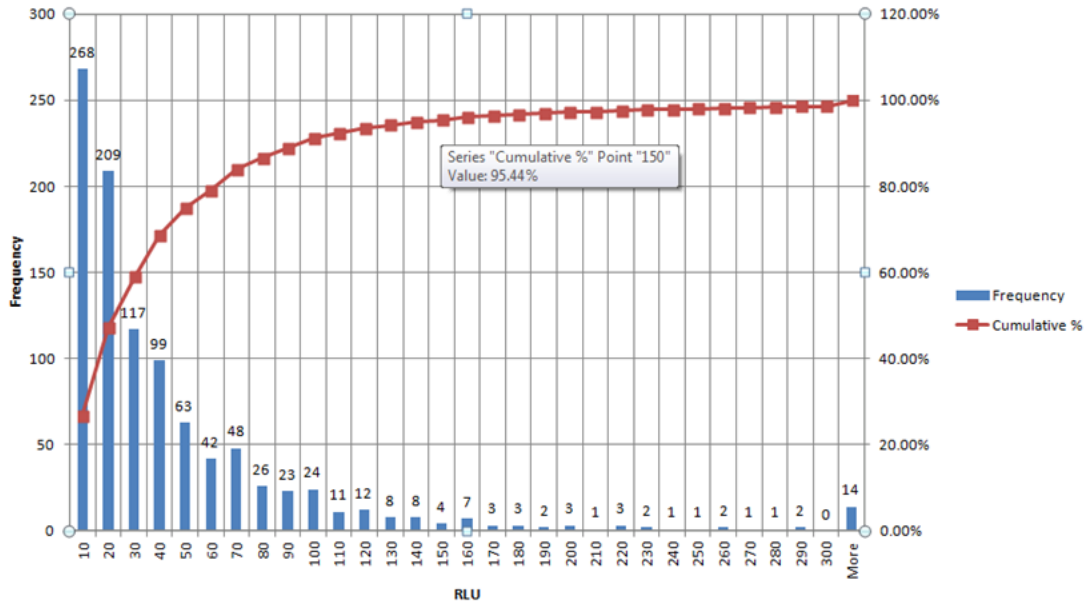

Figure 2. Example of a histogram chart showing RLU test results for a table top surface from the demo database results.
- d. A histogram chart similar to the example in figure 2 appears.
- i. The Frequency bar graph shows the number of RLU tests results that are in each RLU bin. For example, in figure 2 below there are 268 RLU test results in the first RLU bin (0-10 RLU). Use the Frequency bar graph to find the most frequently occurring RLU test result values, because they should represent clean surfaces assuming your cleaning processes are effective most of the time. Then decide how large a margin of error you want to allow between the RLU test results that represent clean surfaces and your pass/fail limit.
- ii. The Cumulative % line shows the percent of RLU test results that are equal to or less than each RLU bin. For example, in figure 2 below, 95.44% of the RLU test results are equal to or less than 150 RLU pass limit. Use the Cumulative % plot to find out the percentage of RLU test results that are equal to or less than the pass/fail limit you’re considering. This assumes that the “More” RLU bin contains an insignificant number of RLU test results, since this RLU bin contains the RLU test results that are above the pass category.
4. The example histogram in Figure 2 shows a single peak in the frequency of RLU test result values (RLU = 268) at a low RLU range (0-10 RLU), which is expected if your cleaning process is effective.